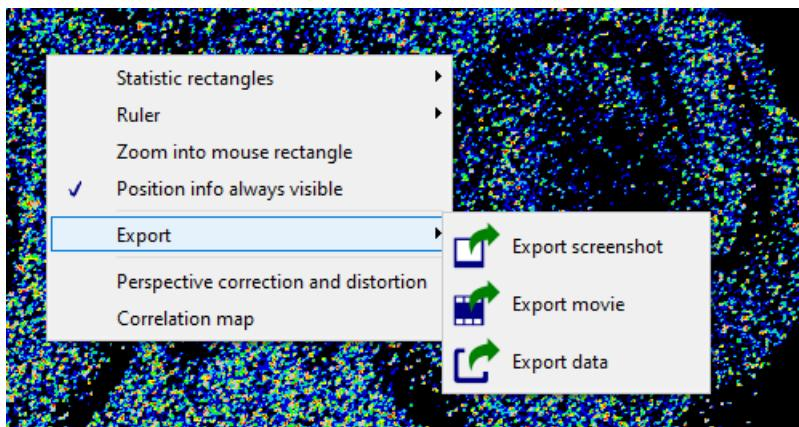

Figure 8.1: Open the **Screenshot Export** dialog via context menu.
- **Screenshot/movie export** (e.g. .png, .mp4) of a view, which is available in the **Export dialog** (see section 8.1) and via context menu on the view depicted in Fig. 8.1 and